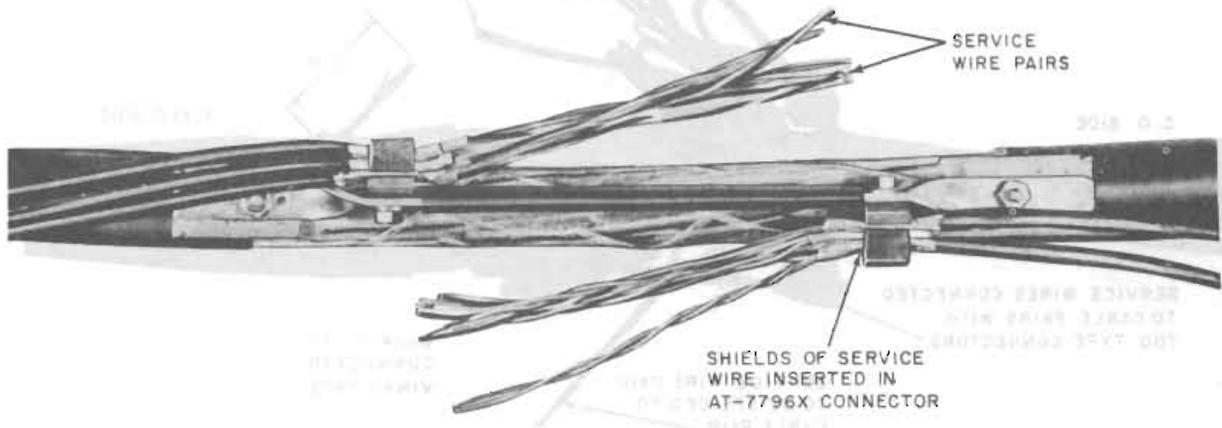
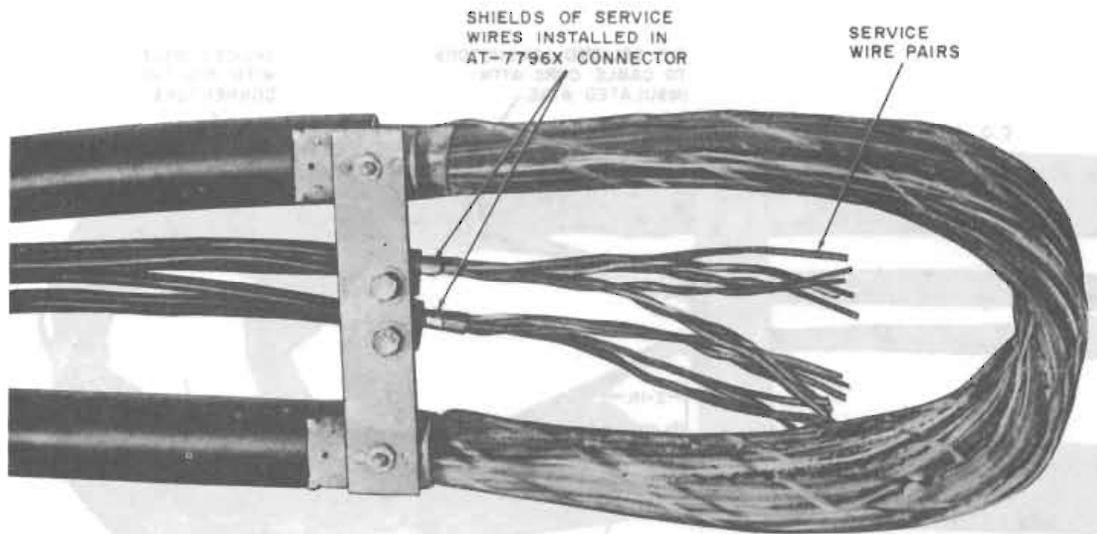

Fig. 38—Installed Service Wire—13-Type Closure
Fig. 39—Installed Service Wire—14-Type Closure
13.04 Install the metallic shield of the filled service wire in the AT-7796X connector as shown in Fig. 38 or Fig. 39 and tighten the screw. This grounds the shield of the service wire.